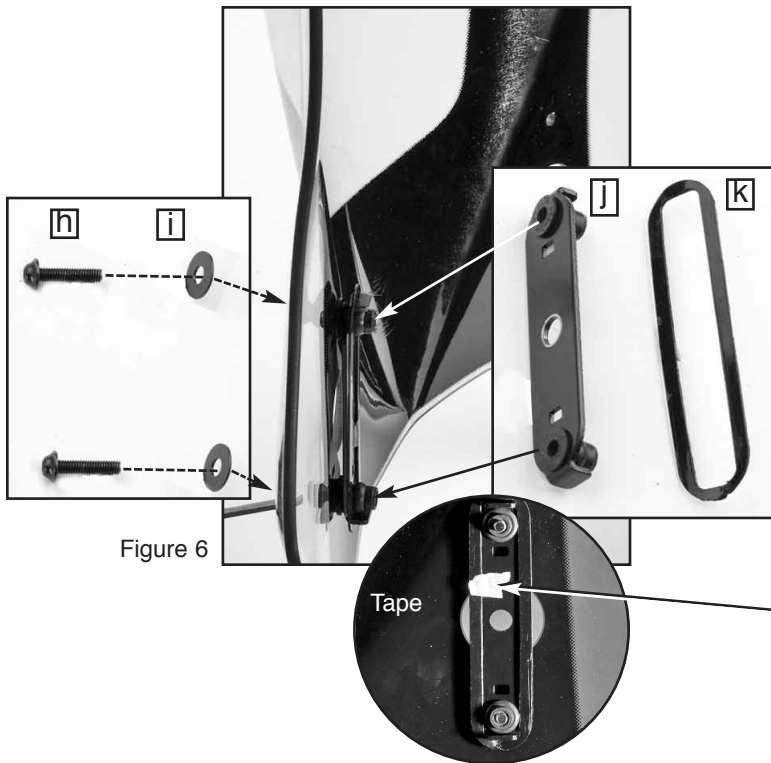

Figure 6
1. Install Stock Parts (h, i, j and k) to the VStream Windshield. *Install longer Hex Screws at upper locations. (5mm Hex Key) Figure 6*
It will be helpful to hold stock part (k) in place with a small piece of Tape while completing installation. (Masking Tape) Figure 6 inset